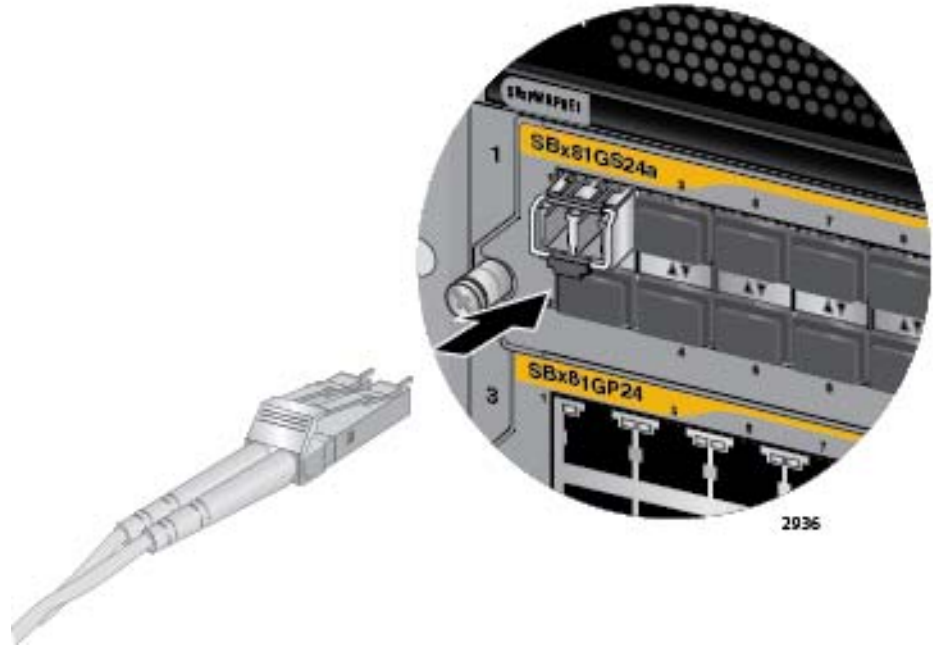

Figure 82. Attaching a Fiber Optic Cable to an SFP Transceiver in the AT-SBx81GS24a Line Card
7. Connect the fiber optic cable to the port on the transceiver, as shown in Figure 82. The connector should snap into the port.